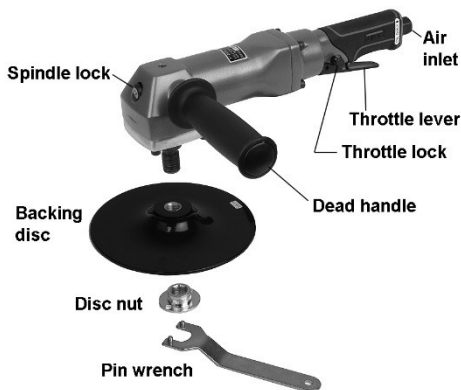

Figure 1
6. Remove protective cap from air inlet (Figure 1). If an in-line oiler is not being used, add 4